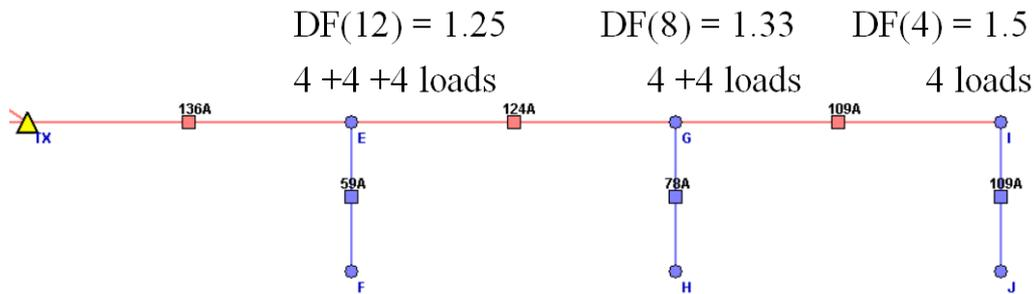

Figure 4.1. Node F has four loads at 4.7 kVA each, Node H has four loads at 8.7 kVA each, Node J has four loads at 6.2 kVA each
The calculation algorithm in LV Design started from the Tx and moves toward an end node of a branch (in this example, the end node is J as seen in Figure 4.1 below). Besides, LV Design also uses the stages approach. In other words, while moving toward an end node, the calculations are repeated every time it detects a node. Hence, a new Diversity Factor (DF) is calculated each time it passes through a node as the number of nodes (N) increases such as below: